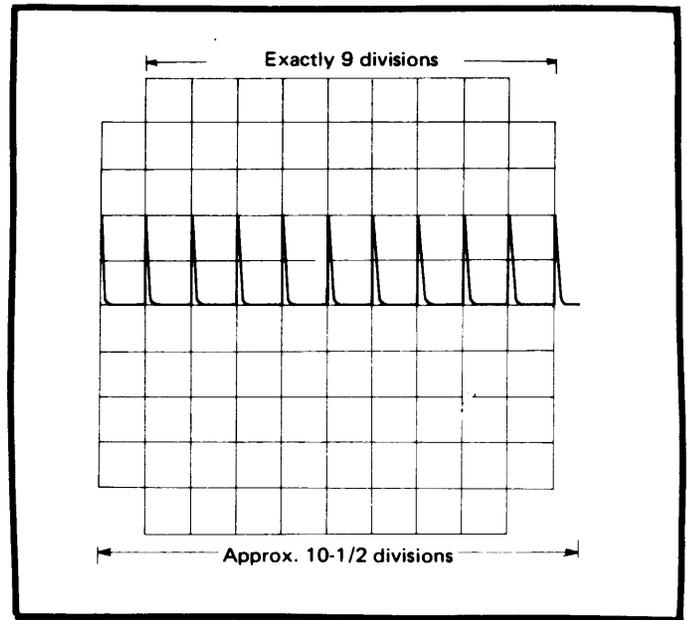

Fig. 23. Sweep Time and Sweep Length Adjustment.
3. Adjust VR15 so 10 marks exactly occupy 9 divisions as shown in Fig. 23 (first mark may not be visible).
4. Adjust VR6 for total sweep length to approximately 10.5 divisions (Fig. 23).
2. Adjust TC1, TC2, and VR5 so that the 11 markers occupy exactly 10 divisions (Fig. 23). The first marker may not be visible.